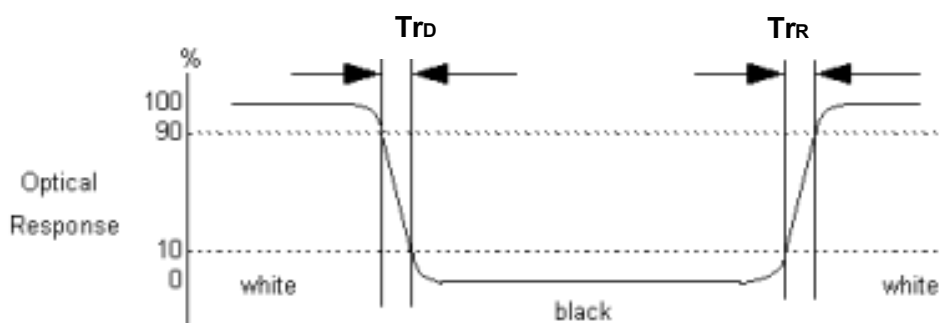

Fig.4-3 Response time
4. Response time is the time required for the display to transition from white(L_{255}) to black(L_0) (Decay Time, $Tr_D = T_f$) and from black(L_0) to white(L_{255}) (Rise Time, $Tr_R = T_r$). For additional information see FIG4-3.